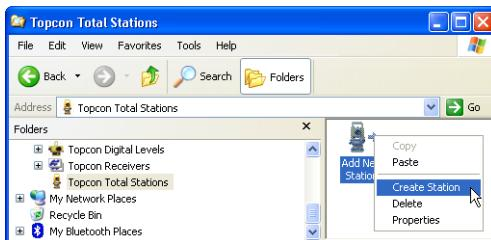

Figure 2-46. Creating a New Station in Windows Explorer
1. Open Windows Explorer. The **Topcon Total Stations** dialog box displays (Figure 2-46). To add a new device, right-click on the **Add New Station** icon, and select **Create Station** on the pop-up menu.